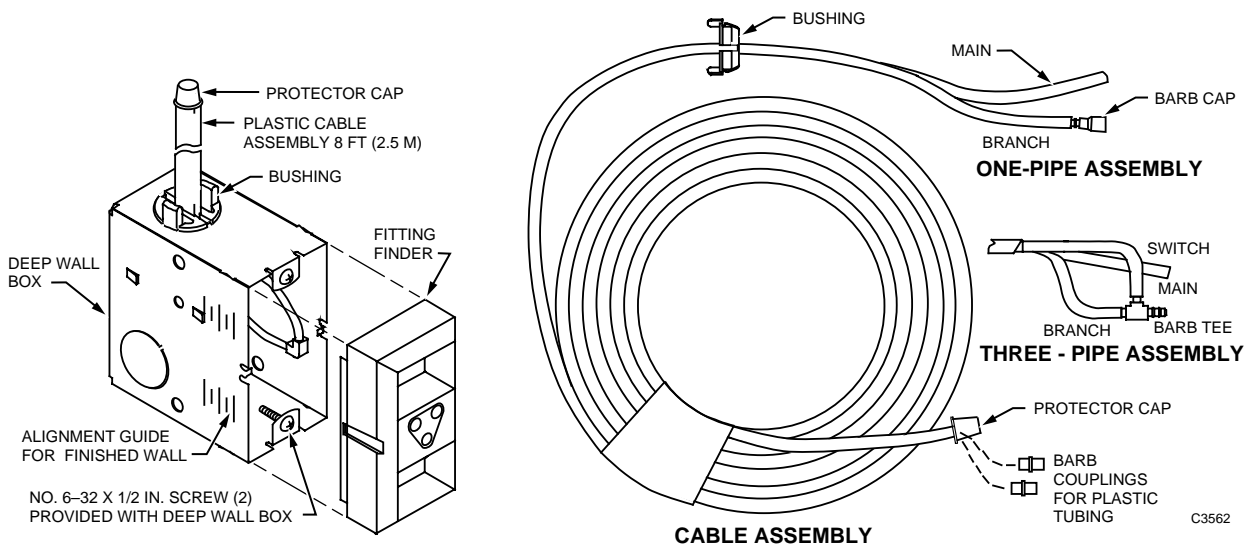

Fig. 24. Deep Wall Box Assembly and Cable Assemblies.
- Deep Wall Box Assembly 14001492-001 (includes two-pipe plastic cable assembly, see Fig. 24) or separate parts for one- and three-pipe applications as follows: